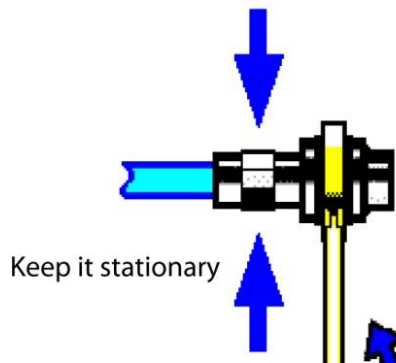

Fig. 3.6 Diagram of wrench operation
Step 3. as shown in Fig. 3.6, complete the final connection by tightening with the torque wrench. Note that the torque wrench must not be beyond the initial break point. Use the auxiliary wrench to prevent the connectors from rotation.